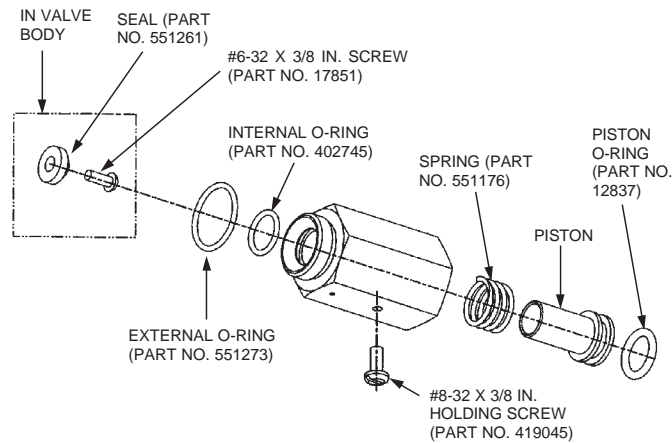

FIGURE 2-4
- ▶ Pressure Regulator Rebuilding Kit (Part No. 551061) should be used. It includes all components and instructions necessary to properly rebuild the regulator. See Figure 2-4.